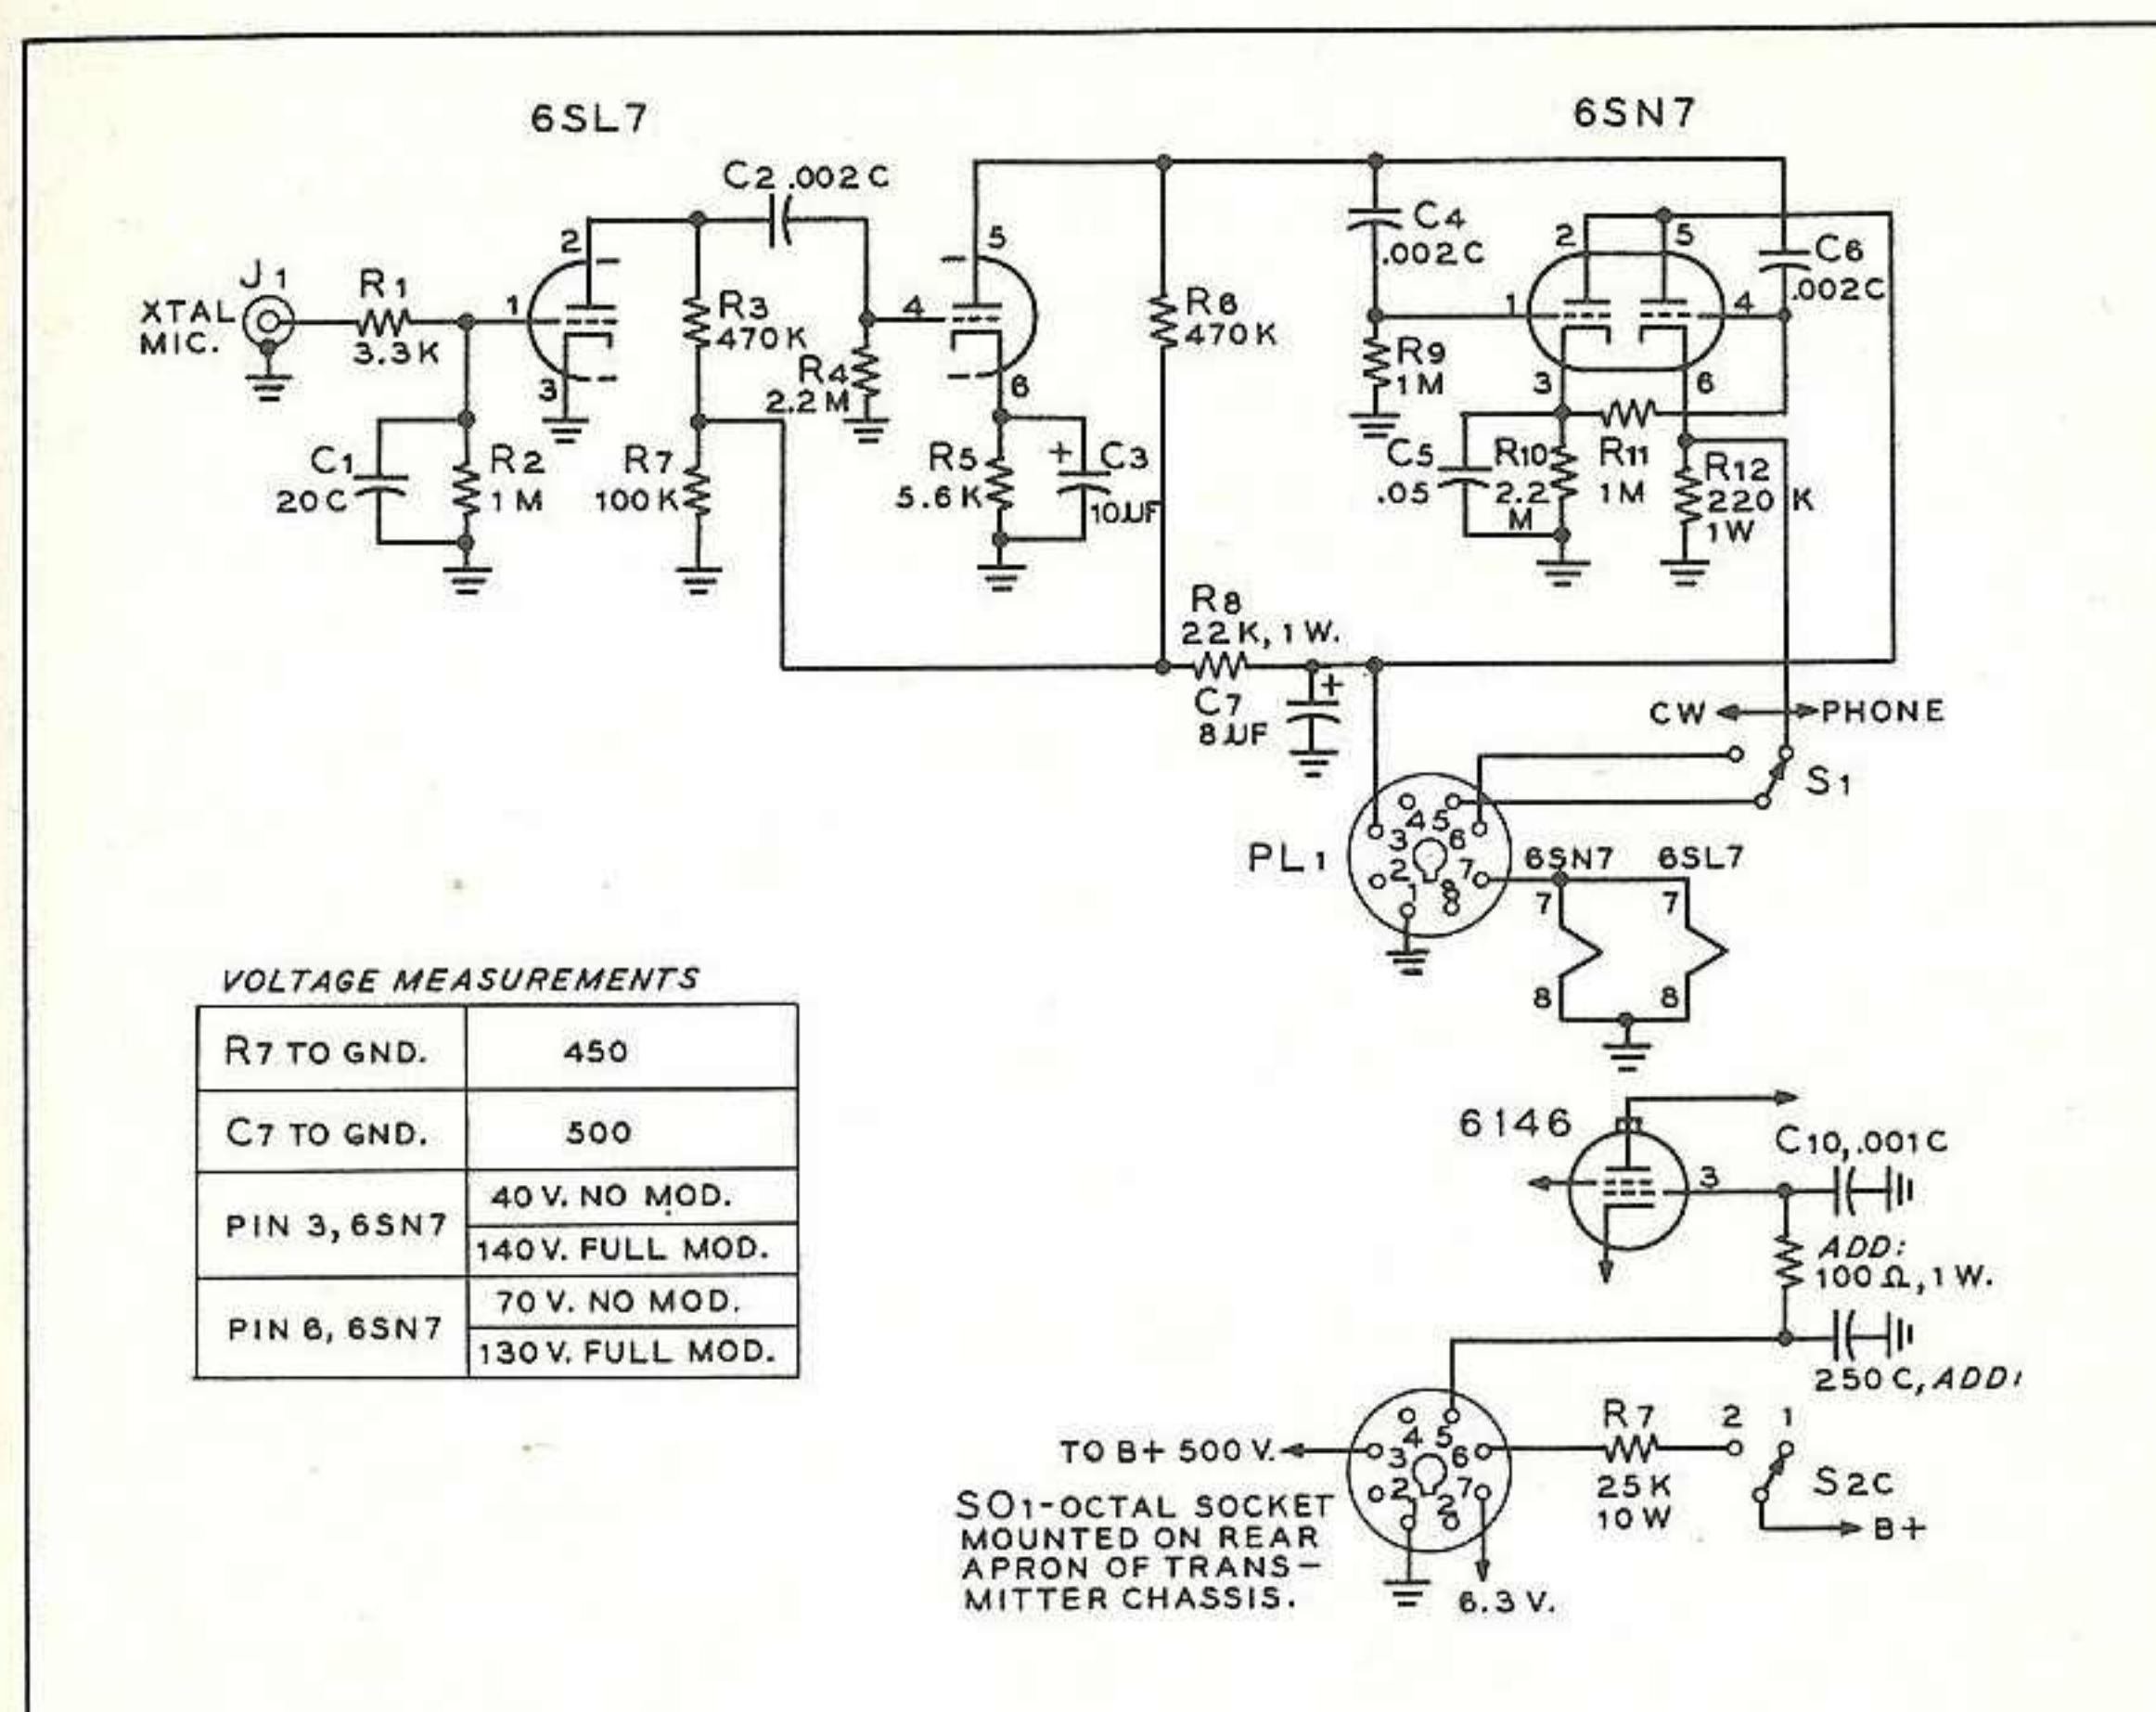

Fig. 24 Schematic of screen modulator for AB-60 transmitter.
A simple and economical method of phone transmission is to employ screen modulation of a tetrode or pentode r-f amplifier. The 6146 and 807 tubes are particularly well suited to this style of modulation, and the circuit of Figure 24 may be employed with these tubes. Peak amplitude carrier output in a screen modulation system is equal to the c-w output of the stage. This is about 40 watts for the AB-60. In order to obtain maximum output consistent with the plate dissipation of the r-f tube, this modulator incorporates a carrier control system that reduces the carrier level to about 8 watts under conditions of no modulation. Under full modulation, the normal peak power is obtained.
The usual step-by-step wiring instructions are omitted for this modulator, since it is felt that by the time the Novice or Technician gets to the stage of the game where he is ready for a modulator, he is also capable of wiring it up without too much coaching from the sidelines. The general assembly outline that follows, plus the diagram of Figure 24 should supply adequate assembly information. Ready to start??
- () When all connections are completed, the modulator should be checked against the schematic of Figure 24. Inspect the unit for rosin joints, shorts, transpositions or accidental grounds.
- () The r-f amplifier screen circuit of the AB-60 should be modified as shown in Figure 24. An octal socket is installed on the rear apron of the transmitter chassis to supply power to the modulator, and to make the proper connections to the 6146 screen circuit.